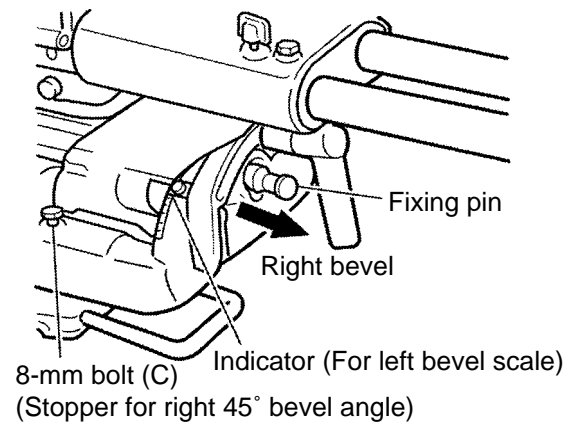

Fig. 50-1
Before shipping from the factory, the height of 8-mm bolts (A), (B) and (C) is adjusted so that the saw blade section (head) will stop at 0° (right angle), 45° to the left, and 45° to the right. To change the head stop positions, instruct the customer to adjust the height of 8-mm bolts (A), (B) and (C) by turning them. For example, to change the 45° to the right stopper, pull the fixing pin in the direction indicated by the arrow in Fig. 50-1, and tilt the head to the right. When setting the head to 0° position, be sure to replace the fixing pin (insert it in the opposite direction from that indicated by the arrow in Fig. 50-1).